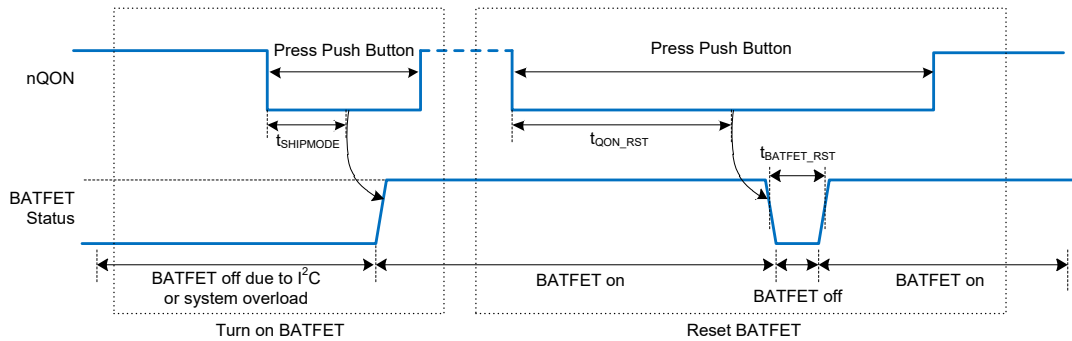

Figure 10. nQON Enable and Reset BATFET Timing
1. Enable BATFET: Applying an nQON logic high to low transition with longer than t_{SHIPMODE} deglitch time (negative pulse) turns on BATFET to exit ship mode (Figure 10 left). HIZ is also enabled (EN_HIZ = 1) when exiting shipping mode. After exiting shipping mode, the host can disable HIZ (EN_HIZ = 0). Boost cannot be enabled (OTG_CONFIG = 1) until HIZ is disabled.
2. Reset BATFET: By applying a logic low for a duration of at least t_{QON_RST} to nQON pin and BATFET is allowed to turn on (BATFET_DIS bit = 0), the BATFET turns off for t_{BATFET_RST} and then it is re-enabled resulting in a system power-on reset (Figure 10 right). This function can be disabled by clearing BATFET_RST_EN bit.